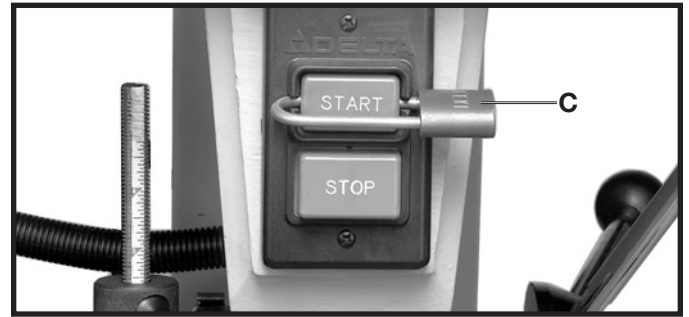

Fig. 20
IMPORTANT: When the machine is not in use, the switch should be locked out using a padlock (C) Fig. 20, with a 3/16" diameter shackle to prevent unauthorized use.